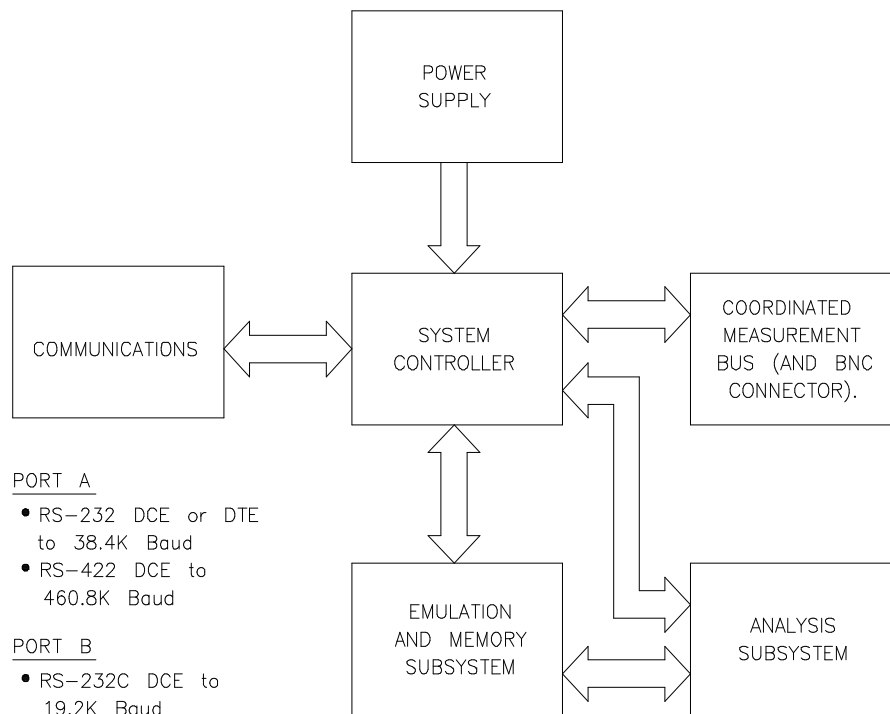

Figure 1-2. HP 64700 Emulation System Block Diagram
- Figure 1-2. HP 64700 Emulation System Block Diagram 1-5
Figure 1-2 shows a basic block diagram of the HP 64700 emulation system.